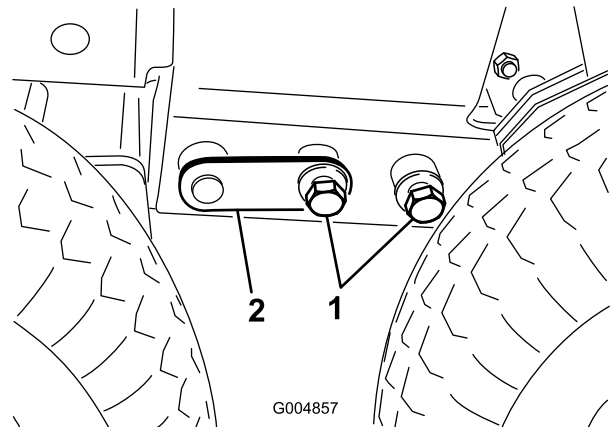

Figure 113
23. Adjust the floor jack or rock the cab with your hands as required to install the bolts (3/4 inch) on each side (Figure 113). Torque the bolts to 265 ft-lb (359 N·m).